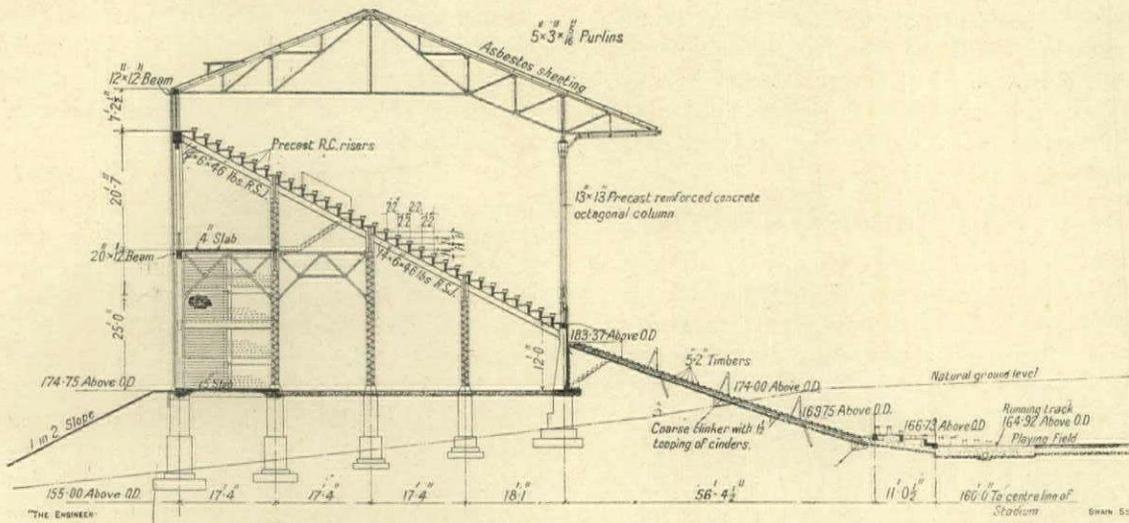

FIG. 4. TYPICAL CROSS SECTION THROUGH STAND, WEMBLEY PARK STADIUM, LONDON, ENGLAND
i.e., above filled grade,—a series of 31 terraces of concrete steps, 1'-1" risers, 2'-2" treads. See Fig. 4. A reinforced concrete retaining wall was built around the outside perimeter of the cinder steps. As shown in the cross section, the joists in the superstructure bear on this wall at the lower end, on reinforced concrete columns at the upper end, and three latticed steel columns in between. In building the steps on this steel framing the risers were pre-cast reinforced concrete beams, whereas the treads are plain reinforced concrete slabs poured in place.